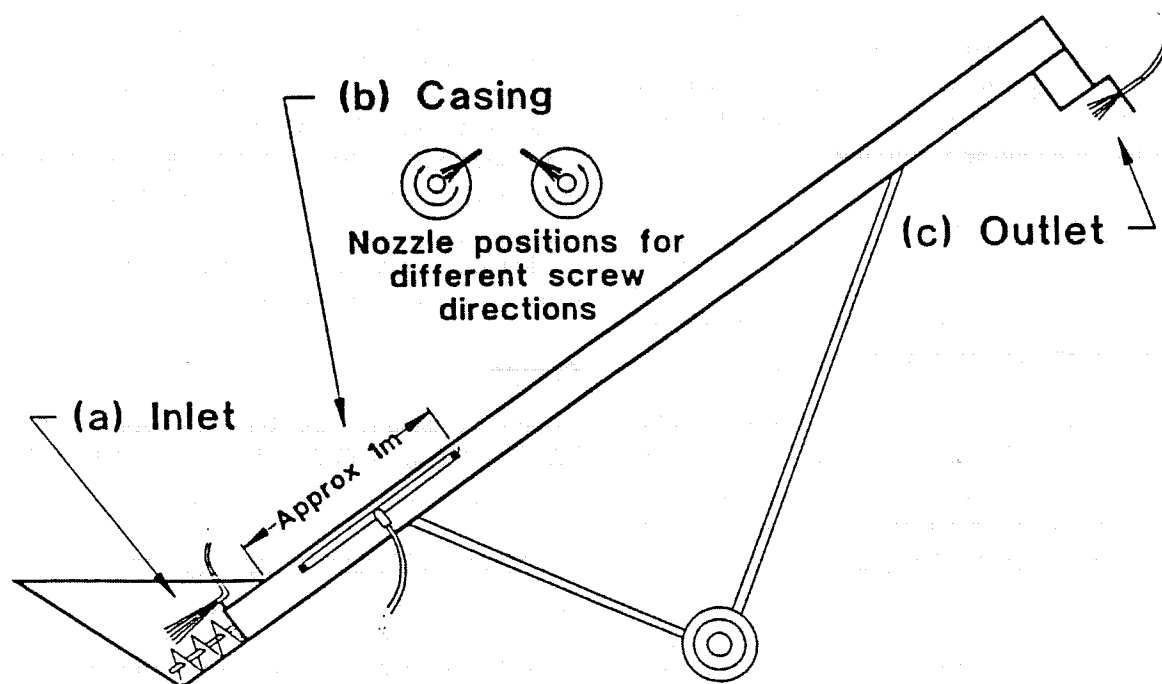

Figure 1 Alternative positions for liquid protectant spray nozzles
Figure 1 shows three possible nozzle locations to apply liquid protectants to grain:
- (b) casing - higher pressure assists distribution; no spray drift; nozzles not visible so pressure gauge or flow meter needed; mount 2 nozzles at bottom end of auger as shown in Fig 1(b); operate at 300-400 kPa (45-60 psi);